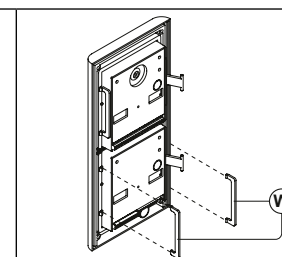

Fig. 4
Fit the anti-tampering locks (W) as shown in Fig. 4.